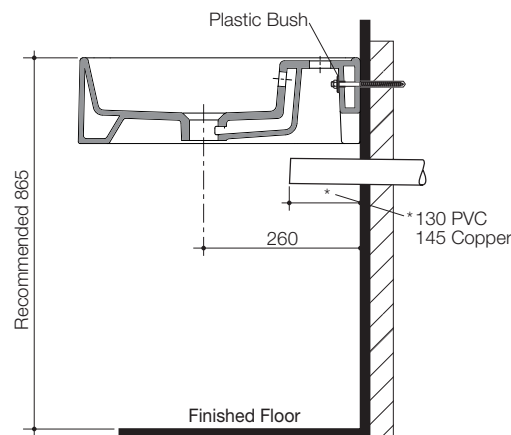

Figure 3
- 4- Locate basin onto the Fixing Screws on the wall. Insert Plastic Bushes, Metal Washers and fasten to wall with Fixing Nut to complete assembly as detailed in **Figure 3**.